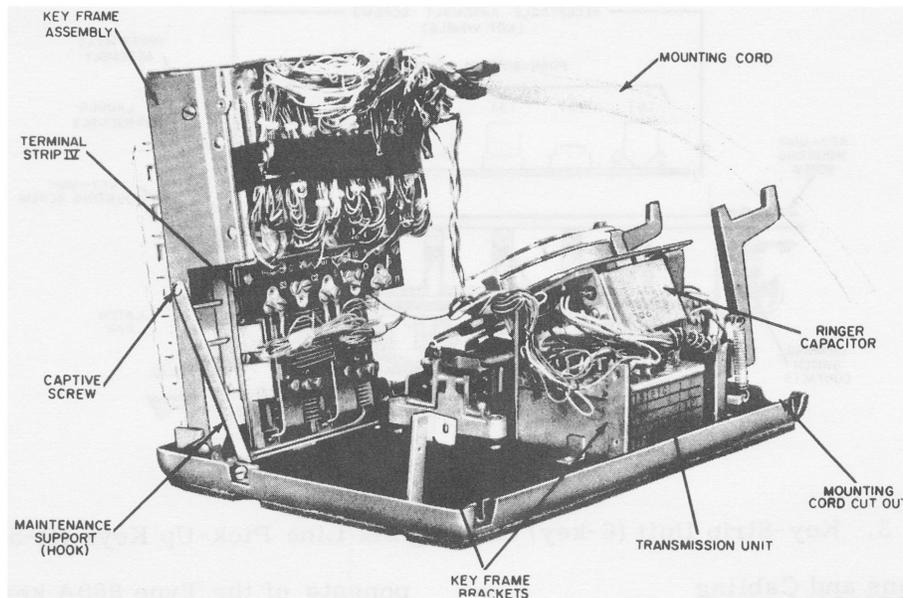

Figure 5. Rear View of the Type 860A Telephone.
ponents of the Type 860A key telephone. However, most of the conductors from the 50-terminal plugs are grouped and enter a plastic cable sheath known as the mounting cord (equivalent to the line cord of regular telephones). The mounting cord also includes a number of conductors (spade tipped) that either connect directly to the transmission components (instead of to the 50-terminal plugs), or are insulated, taped, and stored for possible future use with optional or additional features (Figure 5).
4.04 Remove the screws from the left and right key frame brackets (Figure 5). Raise the rear of the key frame assembly, and support it in this position, using the maintenance support (hook). The terminal